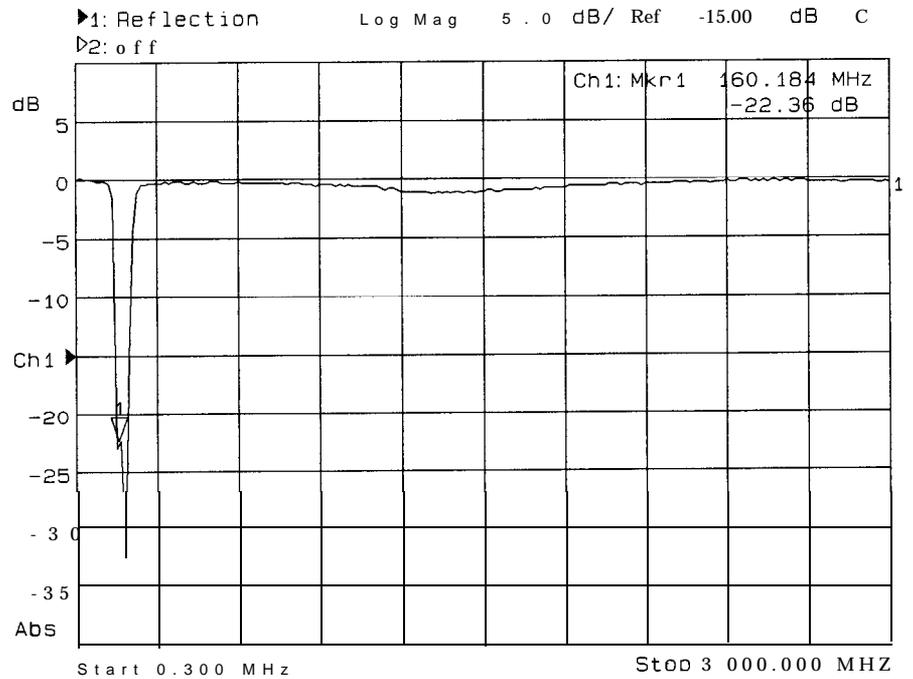

Figure 3.10. Example of a Reflection Measurement Display
2. To interpret the reflection measurement, refer to Figure 3-10 or your analyzer's display if you are making this measurement on your instrument.